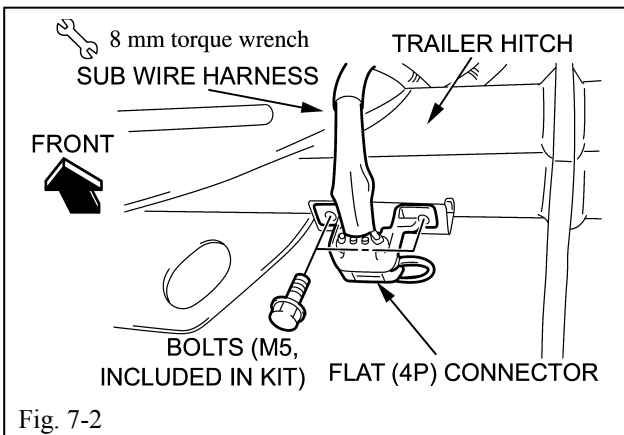

Fig. 7-2
- (1) Fasten flat 4-pin connector with 2 bolts (M5) (included in kit). (Fig. 7-2)
- ⚠ (2) Torque bolts to: 3.9 N•m [36 lbf•in] (Fig. 7-2)